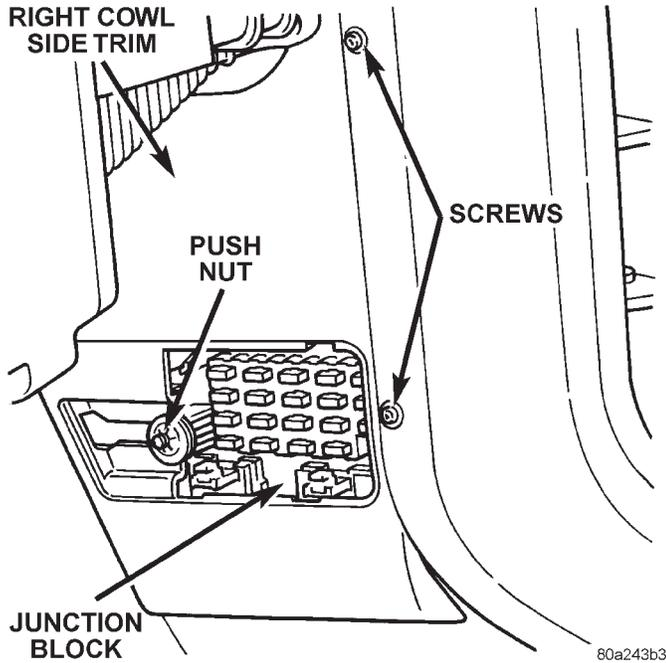

Fig. 15 Right Cowl Side Trim Remove/Install
(1) Disconnect and isolate the battery negative cable.
(2) Remove the fuse access panel by unsnapping it from the right cowl side trim panel.
(3) Remove the push nut that secures the right cowl side trim panel to the junction block stud (Fig. 15).
(4) Remove the two screws that secure the right cowl side trim panel to the right front door opening trim.
(5) Remove the right cowl side trim panel from the right cowl side inner panel.
(6) Unplug the headlamp or park lamp relay from the junction block.
(7) Install the headlamp or park lamp relay by aligning the relay terminals with the cavities in the junction block and pushing the relay firmly into place.
(8) Connect the battery negative cable.
(9) Test the relay operation.
(10) Reinstall the right cowl side trim and the fuse access panel.